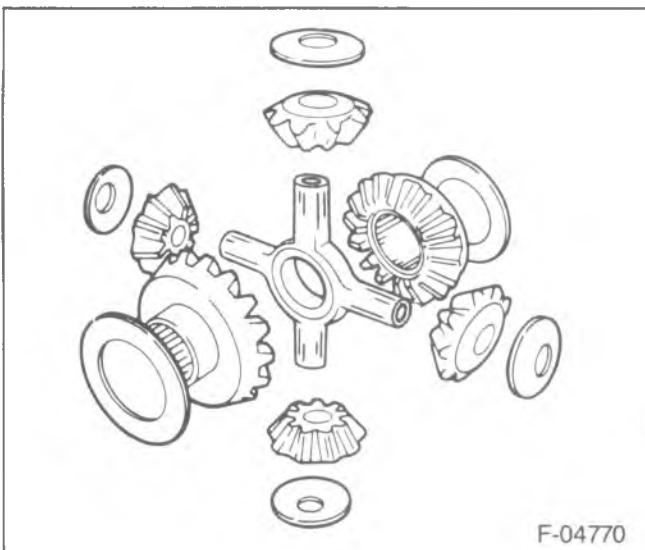
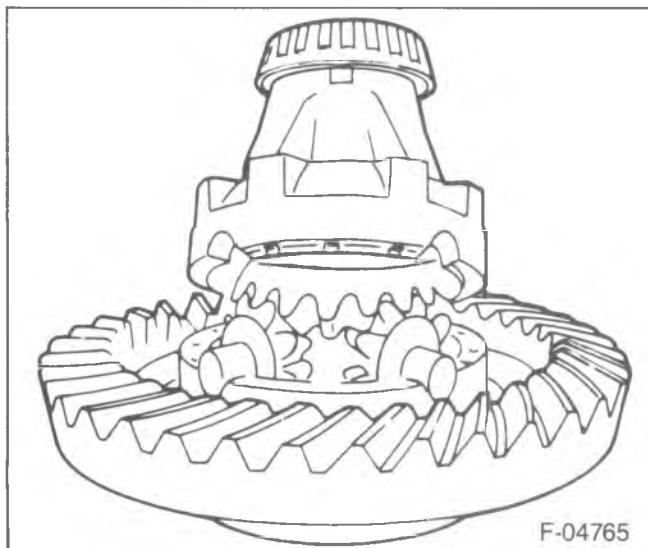

Figure 184—Differential Components
Figure 185—Installing the Case Halves
- Differential pinion gears (41) and thrust washers (42) to the spider (40) (figure 184).
- Differential side gears (43) and thrust washers (38) to the differential case halves in their original locations.
- Differential spider (40) to the differential.
- The case halves (figure 185).
- Case bolts (44).
- Bolts (44) to 61 N·m (45 ft. lbs.).
- Ring gear (37) to the differential.